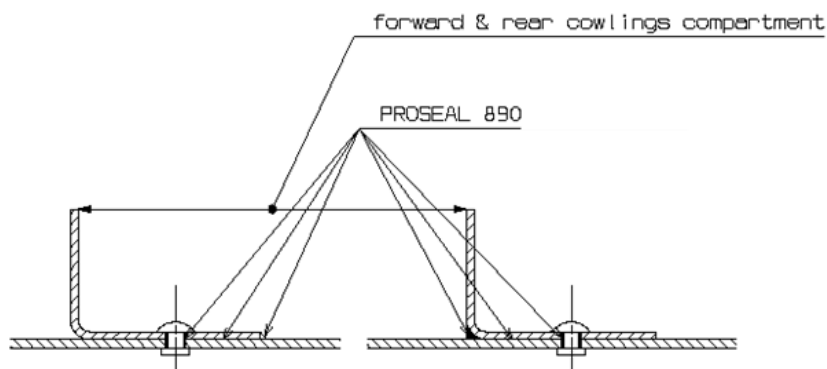

Figure 17 – Sealant Application
- AIR-TIGHT SEALING OF FIREWALLS, UPPER COWLING AND ENGINE COWLINGS ZONES SHALL BE PERFORMED AFTER ASSEMBLING THE ASSYS BY APPLYING THE SEALANT (SEE DIAGRAMS "Y" AND "Z" Figure 17): - ONTO THE EDGES OF BONDED PARTS - PROSEAL 700; - ONTO THE RIVETED JOINTS FROM SIDE OF ENGINE COMPARTMENT - PROSEAL 700; - ONTO THE SCREW JOINTS FROM SIDE OF ENGINE COMPARTMENT - PROSEAL 700; - IN THE OPEN CORNERS OF CLOSED PROFILES BEING THE RESULT OF CONNECTING THE PARTS - PROSEAL 700. THE A/M METHOD OF AIR-TIGHT SEALING REFERS TO THE FOLLOWING PARTS AND ASSYS: 3P7110A031/03232, 3P7110A033/03432, 3P7110A04531, 3P7110A165/16651, 3P7110A167/16851, 3P7110A169/17051, 3P7110A171/17251, 3P7110A173/17451, 3P7110A175/17651, 3P7110A177/17851, 3P7110A201/20252, 3P7110A203/20451, 3P7113A00134, 3P7114A00134, 3P7117A00133, 3P7119A00134, 3P7800A00132.